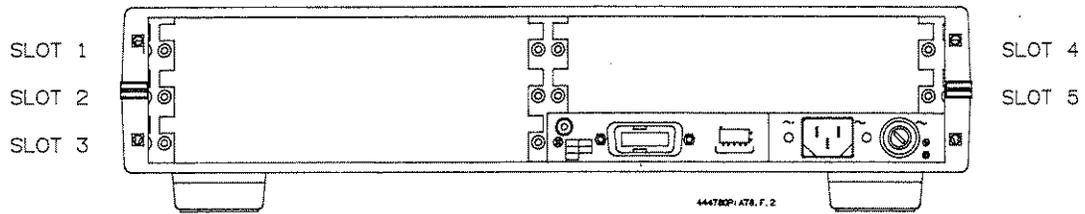

Figure 2. HP 3488A Rear Panel; Available Module Slots.
3. Determine the slot in which you will install the module. Figure 2 illustrates the five slots that are available for installing modules. You can install the HP 44478 in any one of the five slots.